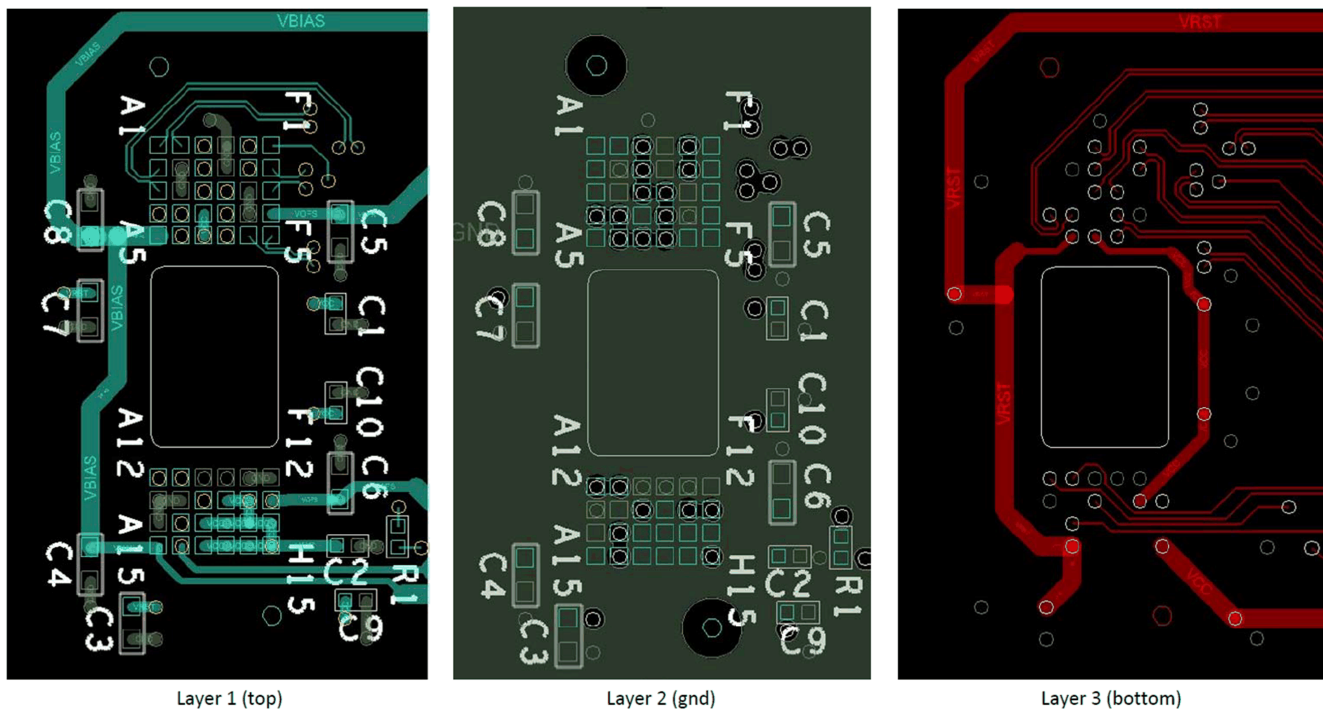

Figure 8. Power Supply Connections
- Minimize vias, layer changes, and turns for the HS bus signals. Refer to Figure 8.
- Minimum of two 100-nF (25 V) capacitors - one close to V_{BIAS} pin. Capacitors C4 and C8 in Figure 8.
- Minimum of two 100-nF (25 V) capacitors - one close to each V_{RST} pin. Capacitors C3 and C7 in Figure 8.
- Minimum of two 220-nF (25 V) capacitors - one close to each V_{OFS} pin. Capacitors C5 and C6 in Figure 8.
- Minimum of four 100-nF (6.3 V) capacitors - two close to each side of the DMD. Capacitors C1, C2, C9 and C10 in Figure 8.